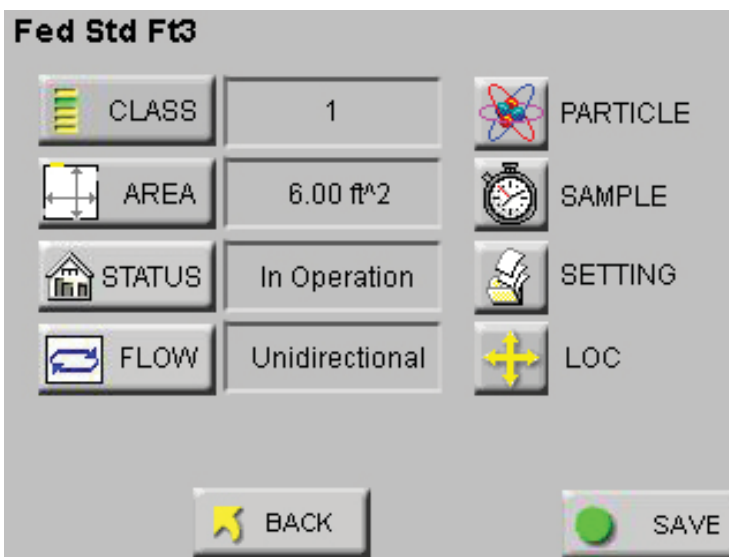

Figure 6-99 Reports Setup Screen
- Press BACK to return to the main REPORTs screen or Press SAVE to save the configuration in the Recipe database. See Figure 6-99.